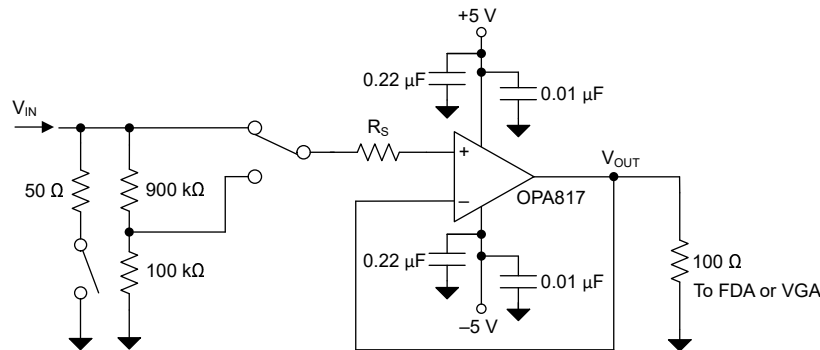
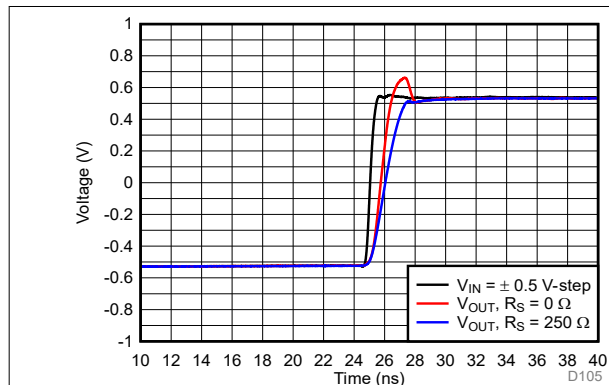
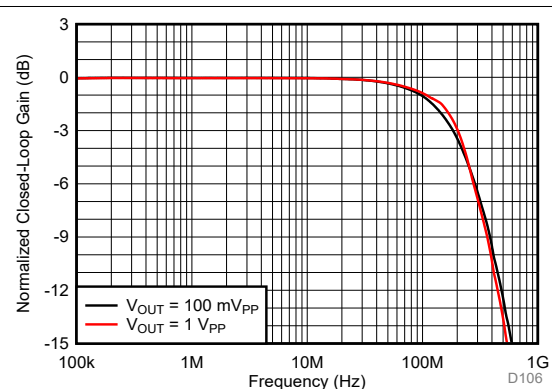

図 8-3. High-Input-Impedance, 200MHz, Digitizer Front-End Amplifier
Figure 8-4. Step Response of Digitizer Front-End
Figure 8-5. Frequency Response for $R_S = 250 \Omega$
- Optimizing Overshoot:** The OPA817 features an internal slew-boost circuit to deliver fast rise-time in applications needing high slew rates such as when configured as a transimpedance amplifier. For applications where overshoot needs to be limited, the input slew rates can be limited with introducing a series resistance (R_S) as shown in Figure 8-3. The resistance R_S forms a low pass filter with the input capacitance of approximately 2.6 pF at the noninverting pin of the OPA817 limiting the input slew rate to the amplifier. Figure 8-4 shows how limiting the input slew rate to the amplifier results in good overshoot performance, and Figure 8-5 shows how this achieves a small signal and large signal bandwidth of 200 MHz.